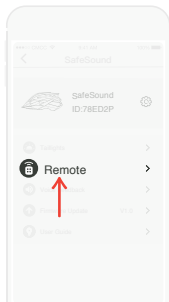
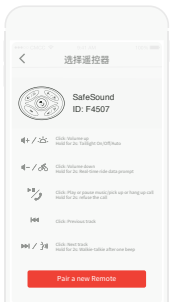

Fig. 11.
Fig. 12.
- Pairing:** Using the COROS App, navigate into the SafeSound menu from the Device Page. Then press on the "Remote" option to enter the pairing interface (see Fig. 11). Press the "Pair a new Remote" button (see Fig. 12) and then press and hold any key on the Smart Remote until the "Successfully Paired" message appears.